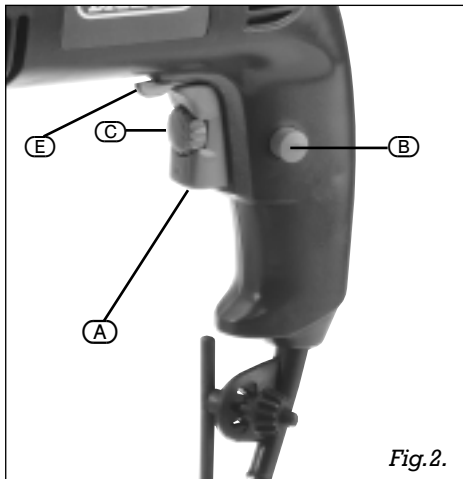

Fig.2.
The switch (A) on both of these tools are fitted with a locking device, (B), allowing the tool to be operated for long periods of time without interruptions. *Fig.2.*
The maximum speed is set by means of the graduated knurled knob (C) (\pm), located on the switch (A). *Fig.2.*
These models are equipped with a reverse selector (E) in order to be able to rotate the machine chuck either to the right or to the left. *Fig.2.*